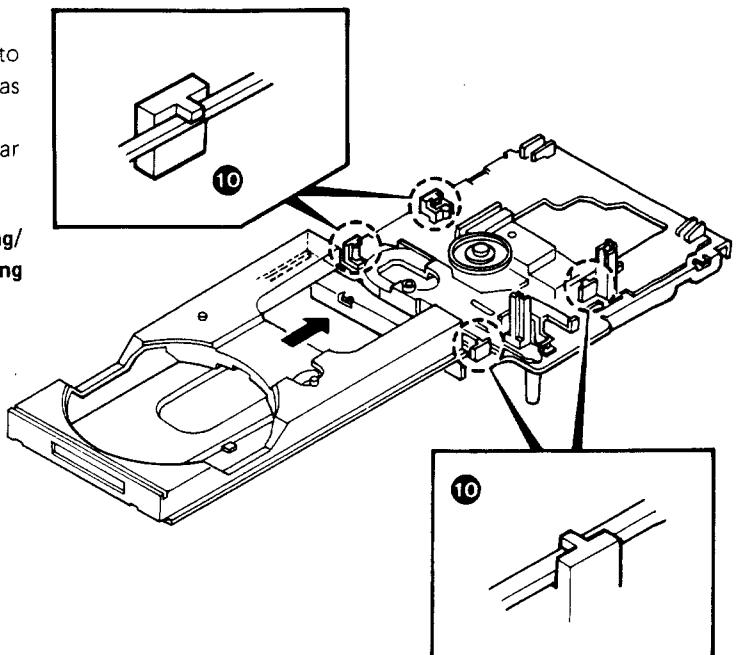

Fig. 4 Attaching the tray
- 1) Attach the collars firmly on both sides of the tray to the four section supporting and guiding the tray as shown in the Fig. 4.
- First attach the front two section then attach the rear two sections as shown in ⑩.